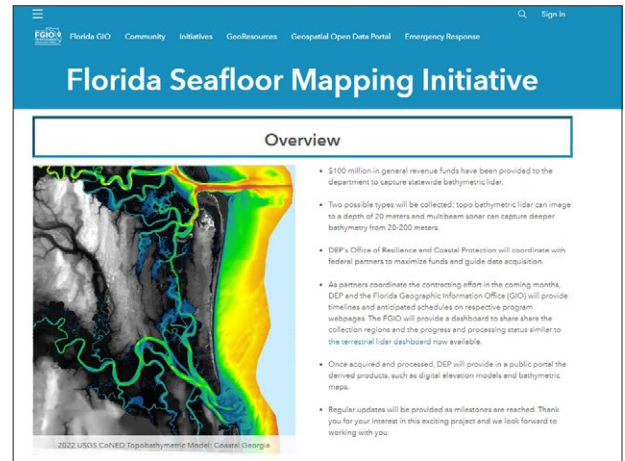

Figure 4: The Florida Seafloor Mapping Initiative (<https://www.floridagio.gov/pages/fsmi>) public-facing website.
**FDEP/Florida Seafloor Mapping Initiative (FDEP/FSMI):** Alex Reed (FDEP Office of Resilience and Coastal Protection) provided an update on FSMI and introduced its web page on the Florida Geographic Information Office (GIO) hub site at: <https://www.floridagio.gov/pages/fsmi> (Figure 4). Alex discussed the funding sources and the scope of the project. She indicated that the first round of project